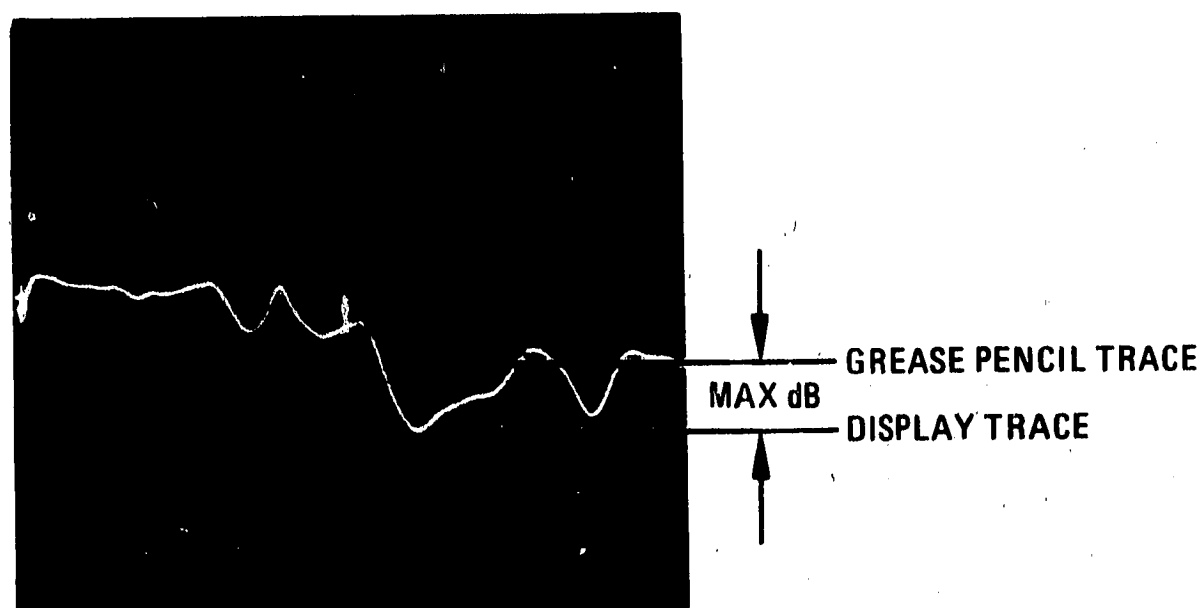

Figure 4-2. Transmission Frequency Response Magnitude
- h. Measure the maximum difference between the grease pencil trace and the display trace (Figure 4-2.) This measured value should be $\leq \pm 1$ dB.